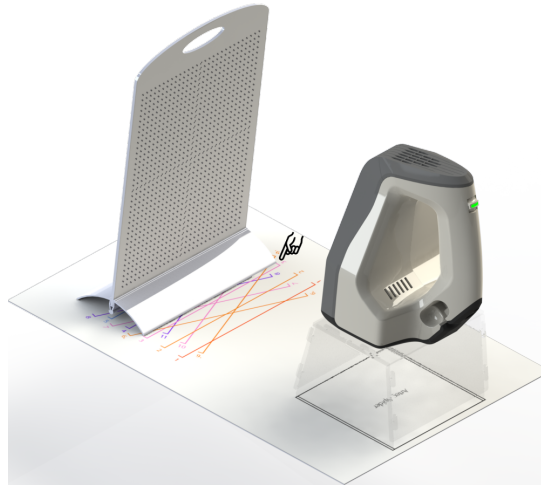

Figure 11.8.: Calibration rig, pattern and scanner stand with Artec Spider.
4. Set the calibration rig on the pattern, turning its marker side toward the scanner as Figure 11.8. shows.